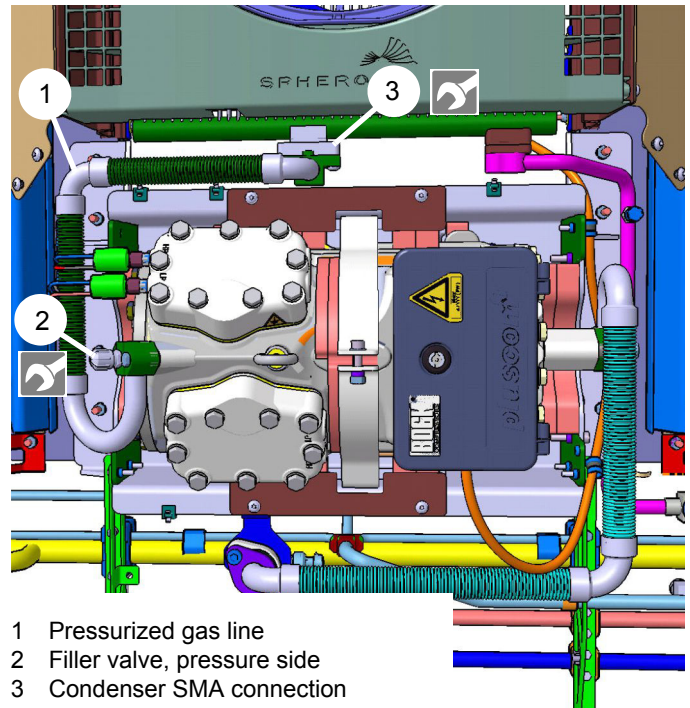

Fig. 911
- Unscrew filler valve (2, Fig. 911) from the suction line.
- Separate connections of the suction line (1) and remove suction line.